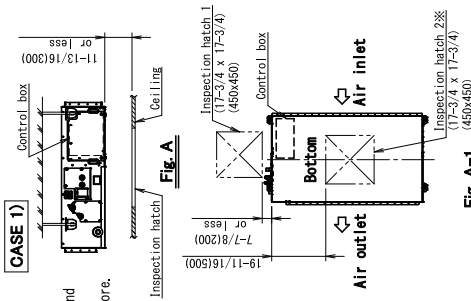

Fig. A-1
1) Inspection hatch 1 and 2 (17-3/4 x 17-3/4) (450x450) (Fig. A-1) and a space of 11-13/16(300mm) or more under the unit. (Fig. A) Note) Inspection hatch 2 is not needed when there is a space for service work under the unit.
4. If the temperature and humidity in the ceiling is likely to exceed 86° F (30°C) and RH80%, reinforce thermal insulation by applying additional insulation materials such as glass wool or polyethylene that have thickness of 3.8(10) or more.
10) Inspection hatch 1 and 2 (17-3/4 x 17-3/4) (450x450) (Fig. A-1) and a space of 11-13/16 (300mm) or more under the unit. (Fig. A) (Note) Inspection hatch 2 is not needed when there is a space for service work under the unit.